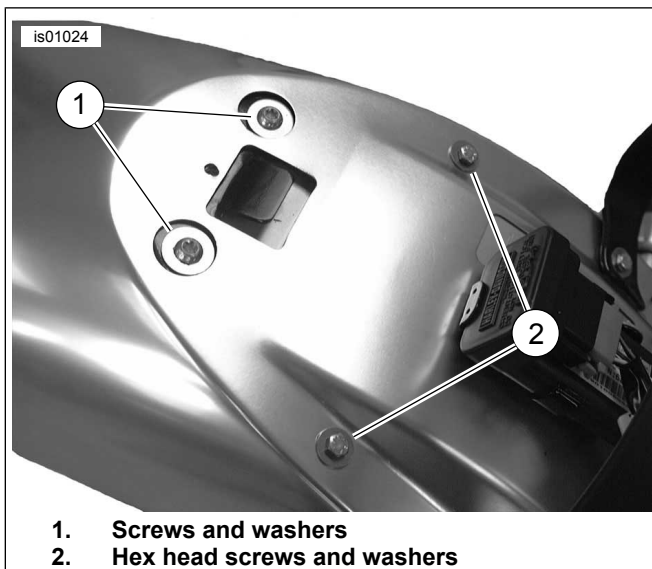
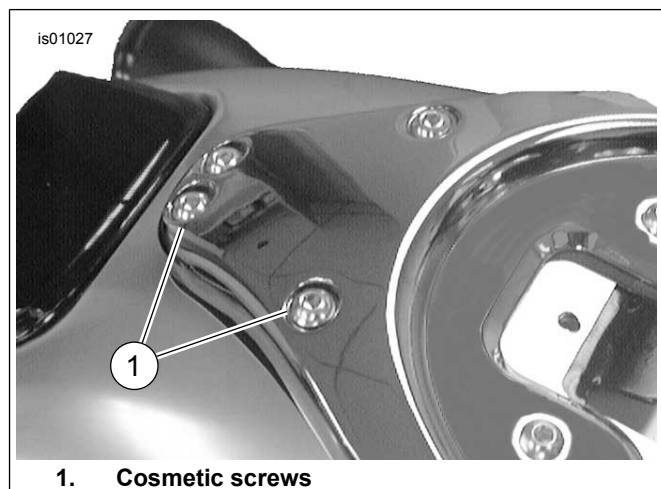
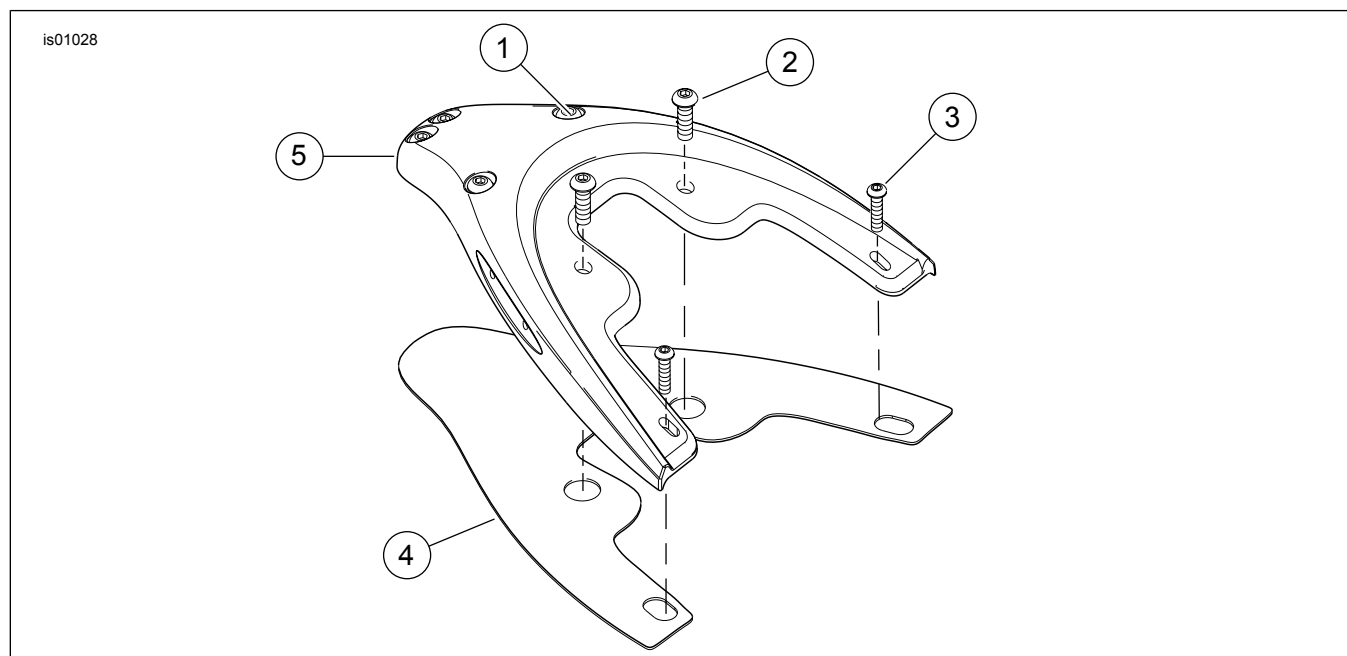

Figure 3. Remove Fender Support Screws and Washers
Figure 6. Install Cosmetic Screws
Figure 7. Service Parts: Baseplate Kit
See Figure 7 and Table 1.
7. See Figure 3. Remove the two larger fender support screws and washers (1) near the center of the fender. Discard screws, but save washers for re-installation.
8. Remove the two smaller fender support hex-head screws and washers (2) near the sides of the fender. Discard screws, but save washers for re-installation.
10. See Figure 7. Obtain baseplate (5) and baseplate gasket (4) from kit.
12. See Figure 7. Remove the paper backing covering the gasket adhesive (4). Carefully align the adhesive side of gasket over the back of the baseplate (5) and work around edges. Make sure gasket is aligned and adheres along the entire baseplate perimeter as shown.
13. See Figure 7. Obtain the two large button head screws (2) and two small button head screws (3) from kit. Also obtain the large and small flat washers saved in Steps 7 and 8.
18. See Figure 6 and Figure 7. Obtain four screws (1) from kit. Install the four (cosmetic) screws into the holes at the rear of the baseplate. Tighten screws to 20 N·m (15 ft-lbs).